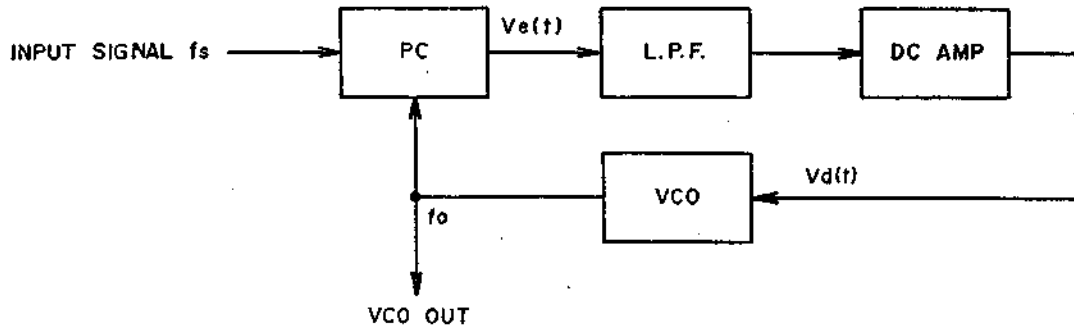
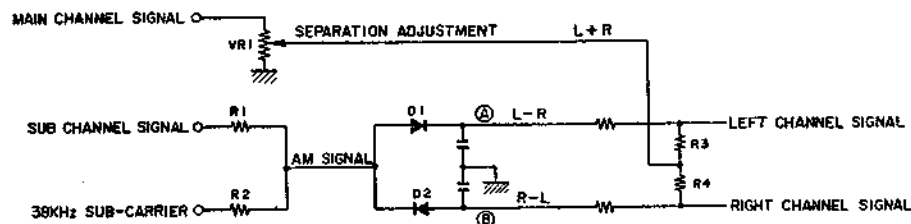

Fig. 13 PLL Circuit
Fig. 16 Multiplex Decoder
PLL circuit is a kind of feedback circuit and is comprised of a Phase Comparator (PC), a Low Pass Filter (LPF), a Direct Current Amplifier (DC Amp), and a Voltage Control Oscillator (VCO) as shown in Fig. 13.
Accordingly, for composite stereo signal demodulation, the sub carrier used for demodulation at the transmitter must be the same uniform 38 kHz signal as the frequency and phase. If the 38 kHz waveform is asymmetrical, channel separation will become poor. At the PLL employed MPX stereo demodulator circuit, as shown in Fig. 13 first a 76 kHz signal is oscillated and when this passes the divider, a symmetrical 38 kHz signal is obtained. This 38 kHz sub carrier is supplied to the multiplex decoder together with the sub channel of the composite stereo signal. At the multiplex decoder, left and right channel audio signals are separated in order as shown in Fig. 16. The 38 kHz sub carrier composited with the sub channel signal of which the carrier part was